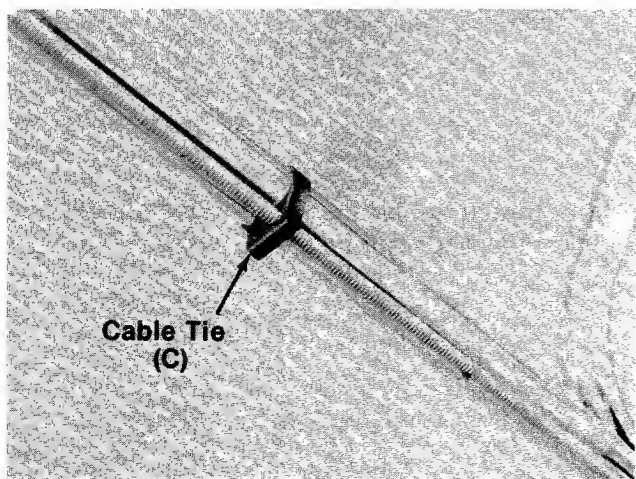

FIGURE 6.
6. Secure throttle control cable to handle with cable ties (C) provided. See figure 6.